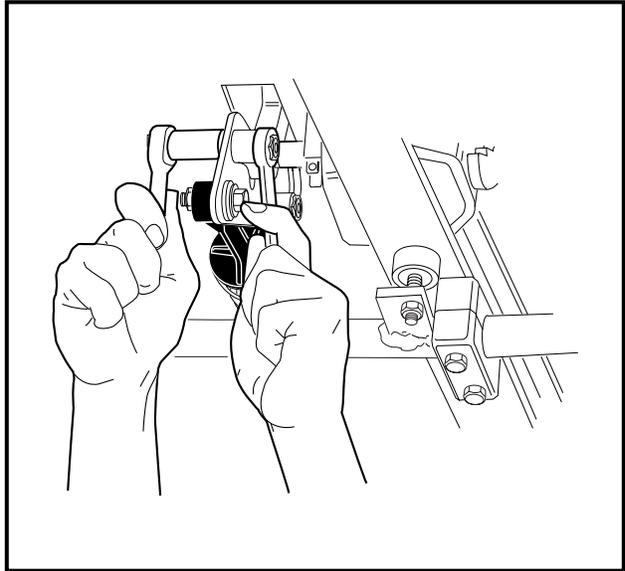

Figure 5-31 Accelerator Pedal Height Adjustment
- 5.1. Loosen the nut and bolt (Figure 5-31, Page 5-20) securing the accelerator pedal to the pivot plate.